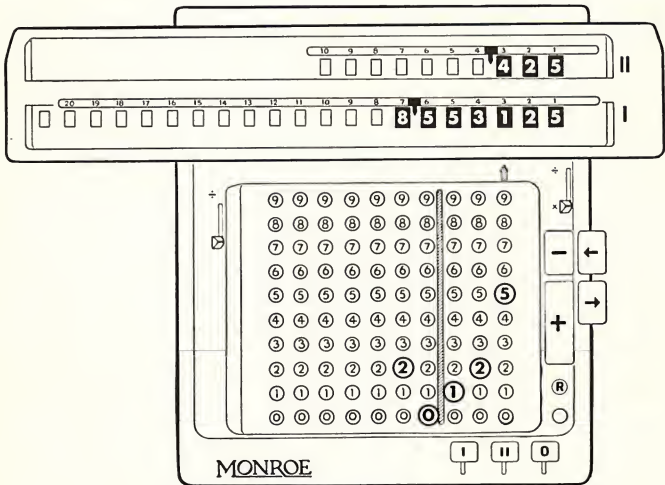

Figure 9
Step 3—The result in the lower dials will be 8.553125, correctly pointed off (Figure 9). If the result is dollars and cents it is copied from the lower dials as \$8.55, ignoring the terminal digits 3125. If these digits were 5125 instead of 3125 the half-cent would be picked up and the amount would be \$8.56 instead of \$8.55.